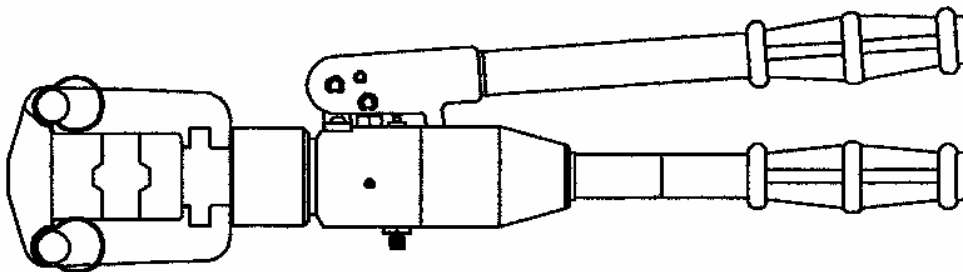

Figure 44. HH80C Hand Actuated Hydraulic Crimp Tool
106. INTRODUCTION. The HH80C (see Figure 44) is a hand actuated hydraulic crimp tool designed to use interchangeable MS23002-XX dies (for insulated lugs) and MS 90485-XX dies (for un-insulated lugs). It has a two-stage hydraulic system with an automatic relief valve to prevent over-compression.
- b. Actuate the pump release handle and confirm that the die is in the fully open position (see Figure 44).
- c. Hold the tool with the crimping head down on a clean surface and remove set screw 2 (see Figure 44), and unscrew cover (Item 40) along with the handle assembly.